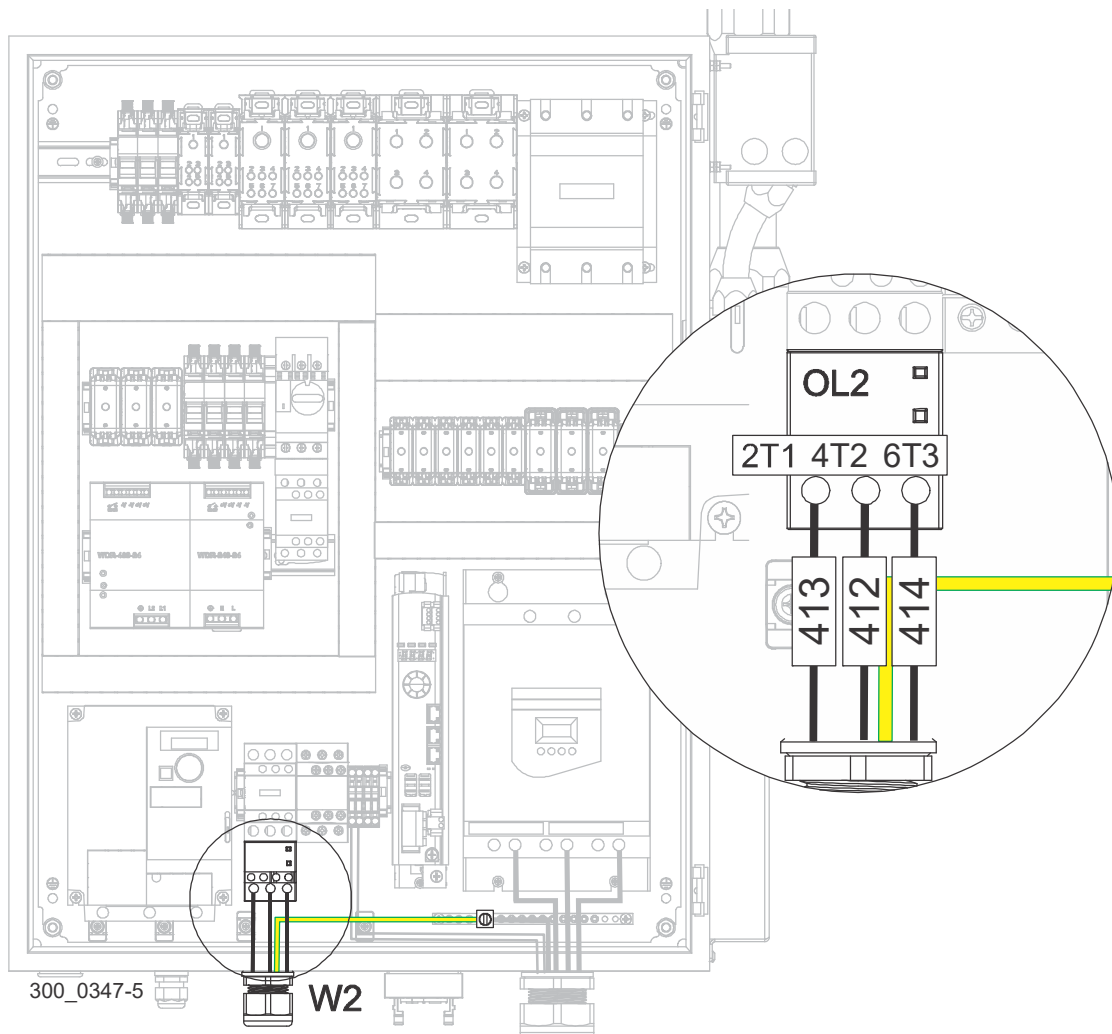

FIG. 3-16 HIGH VOLTAGE BOX
1. Route the hydraulic pump motor cable (W2) through the connector W2 located at the bottom of the high voltage box and secure. See Fig. 3-16.